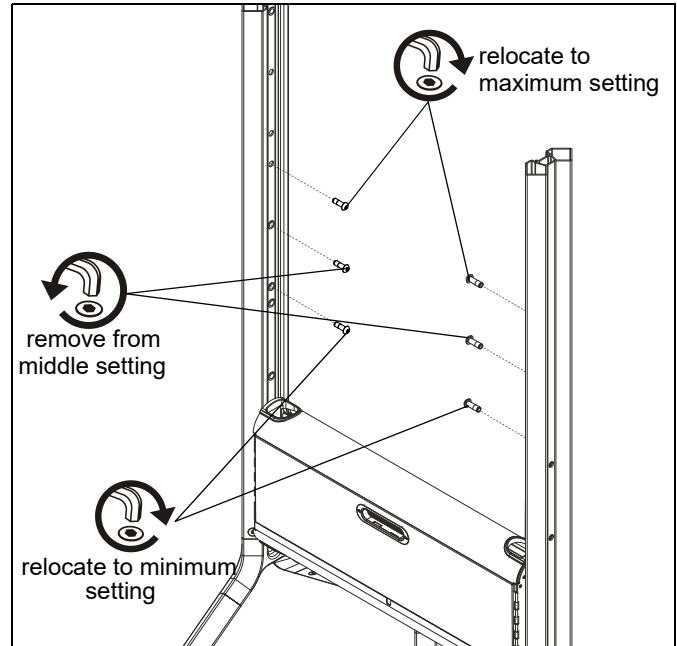

Figure 19
4. Relocate lower screws to appropriate holes on frame based on desired height. (See Figure 19)